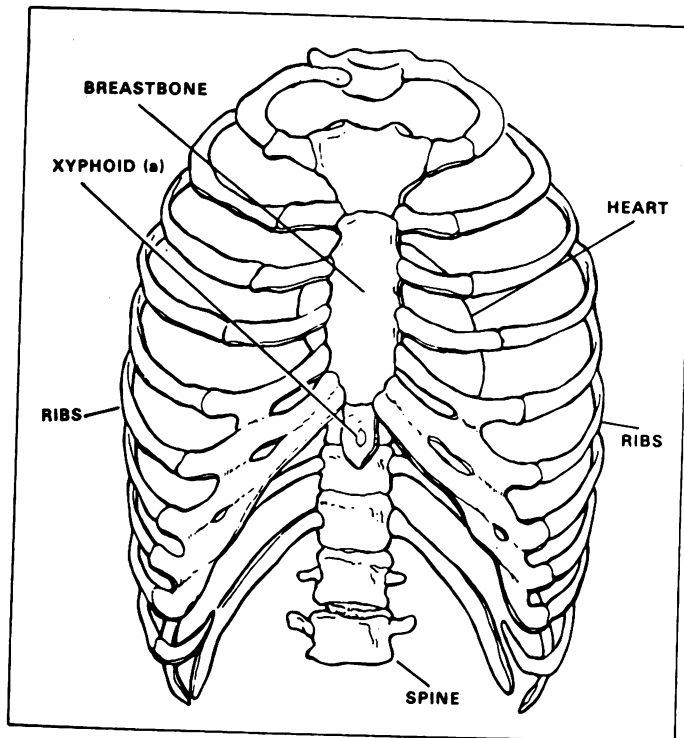

Figure 3.
12. Locate the bottom of the soldier's breastbone as shown in figure 3. The bottom of the breastbone can be located by feeling for the space just below the ribs just below the breastbone.